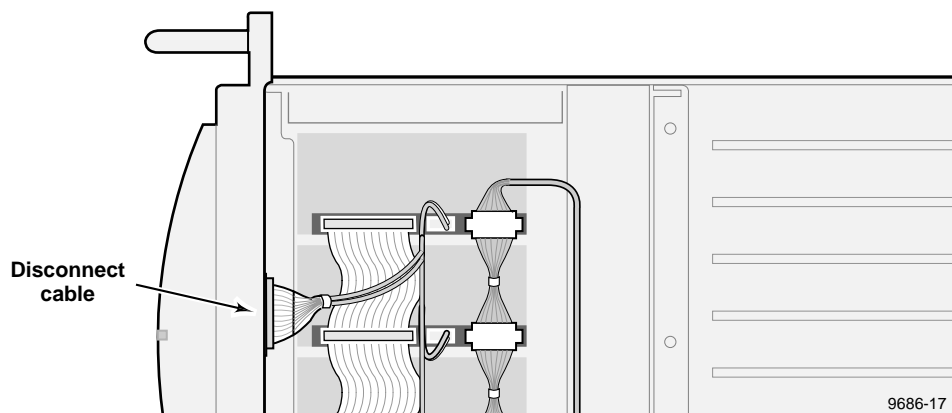

Figure 11. Disconnecting the LED cable
1. Disconnect the LED cable from the front panel connector. See Figure 11.